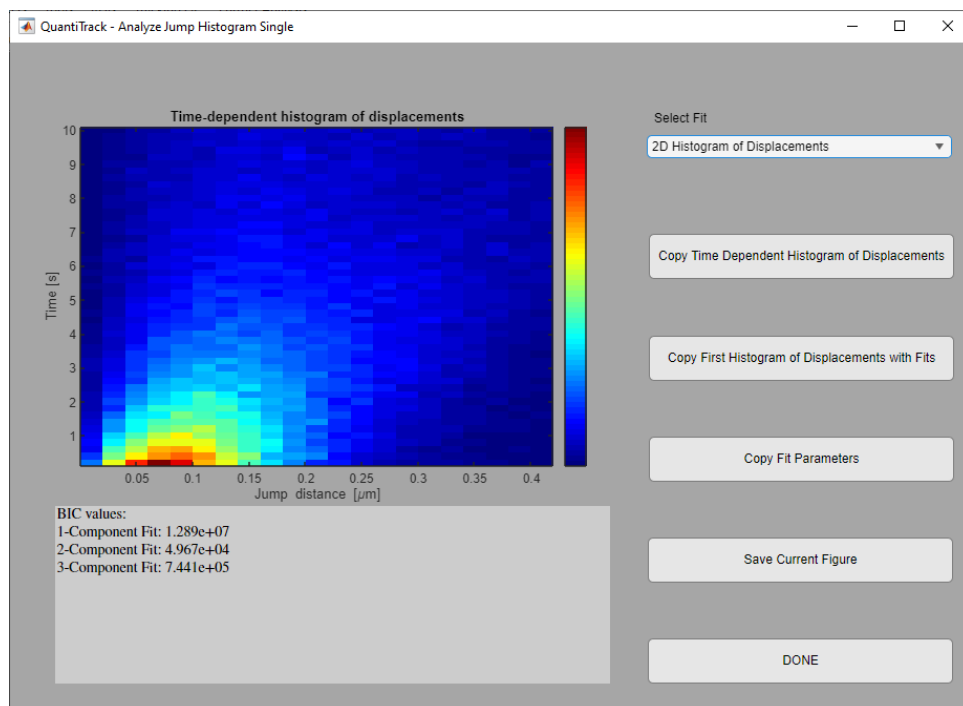
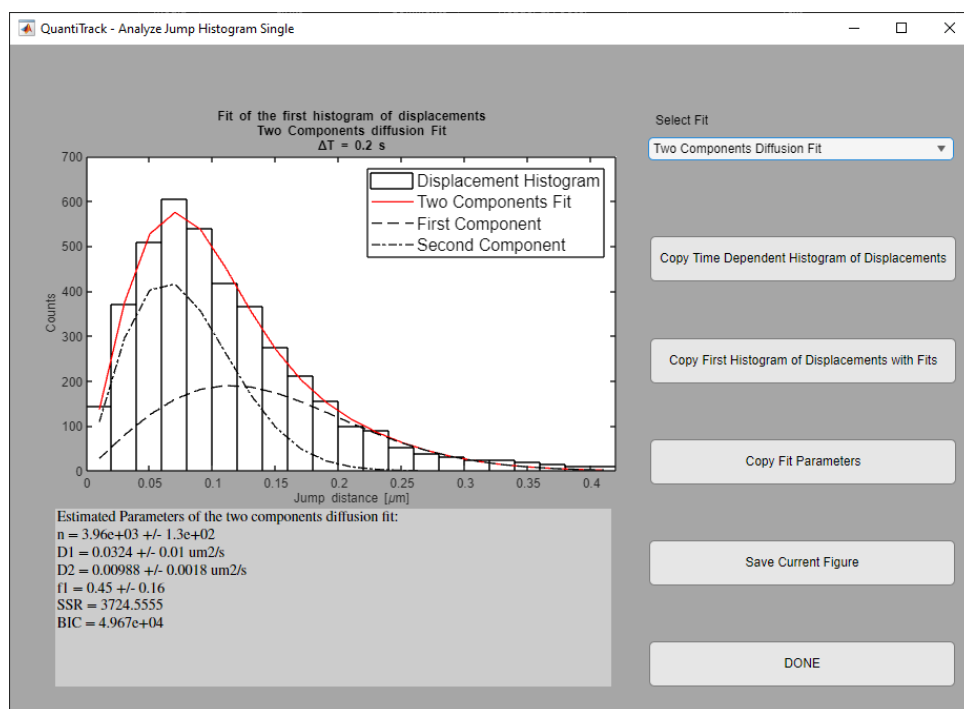

Figure 8: Analysis of Jumps
Figure 9: Fit of Single-frame jumps to a Two-component Diffusion Model
The first plot that shows when the processing is complete (Figure 8) is a “heat map” of the jumps (“time-dependent jump histogram”). The heat map represents how many molecules have jumped a certain distance (x-axis) in a certain time (y-axis). “Red color” means higher counts (more particles jumping that distance in that time), “blue colors” are lower counts. This plot is very informative, as, for example can be used to identify whether bound molecules are present (they will appear as a red streak, at short jumps). The Bayesian Information Criterion (BIC) for the three models are displayed in the text box below the heat map. The model with the lowest BIC best describes the data.
**JUMPS, I.E. THE FIRST ROW IN THE HEAT MAP.** The data in Figure 8, for example, is best-fit with a 2-component diffusion model (Figure 9). You can copy the histograms, the fits and the fit results to the MATLAB workspace in table format, which can then be copied and pasted into Excel.